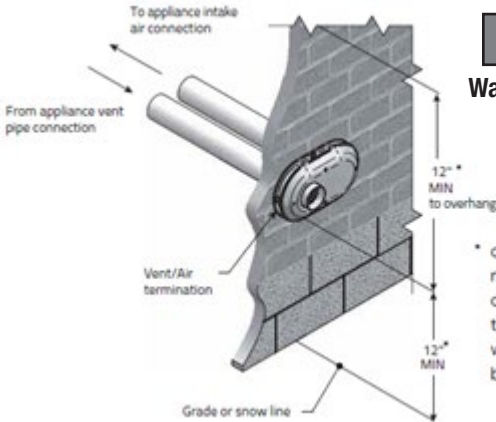
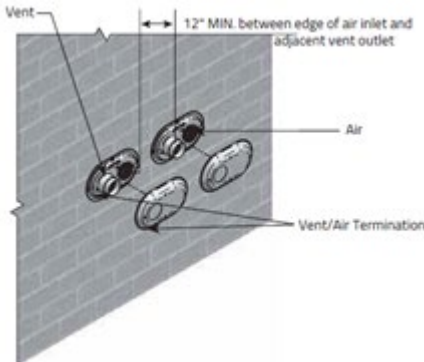

Fig. 2
Fig. 5
When locating the penetration of the vent and air pipe, ensure the termination is properly oriented as shown in Figure 3 and ensure that it maintains minimum clearance requirements as shown in Figure 2. For multiple vent terminations, ensure that a minimum clearance of 12 in (30 cm) is maintained between edge of air inlet and adjacent vent outlet and that all vent pipes and air inlets terminate at the same height to avoid the recirculation of flue gases and the possibility of causing severe personal injury, death, or substantial property damage (see Figure 5).
2. Slide both the intake and vent pipe through the holes. Solvent weld both pipes to the base of the vent termination kit (see Figure 2).